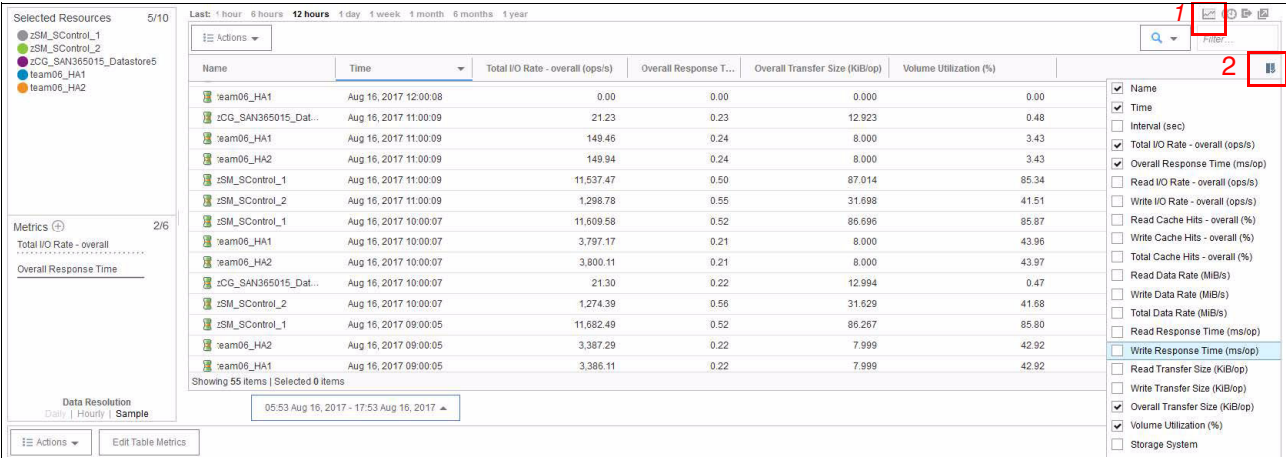

Figure 2-12 Table view of performance chart
To show more metrics with different units, the performance data can also be displayed as a table by using the toggle chart/table function (1) and then adding additional metrics as columns to the table (2), as shown in Figure 2-12.